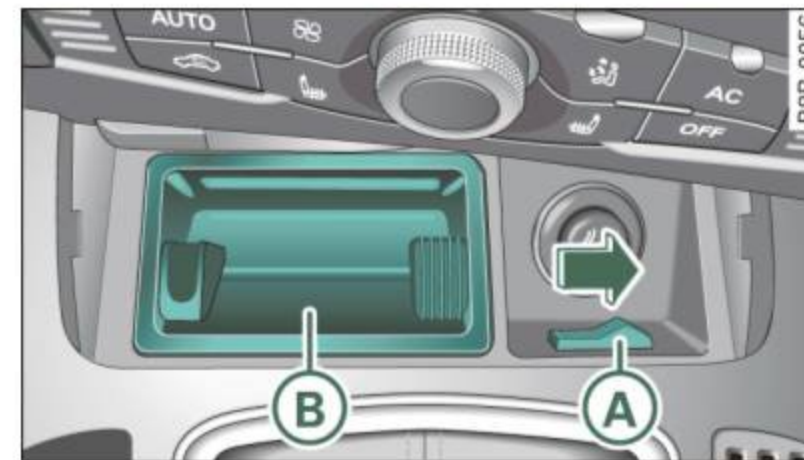

Fig. 151 Removing ashtray insert
- Release the ashtray by pushing the switch **(A)** ⇒ page 156, fig. 151 to the right.